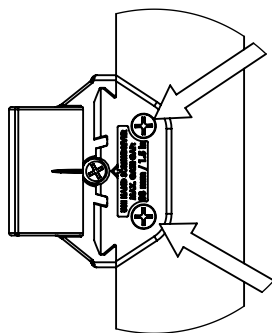

FIG. 8
3. Secure Keeper Assembly to Gate in this position using (2) Countersunk screws as shown in (Fig. 8).